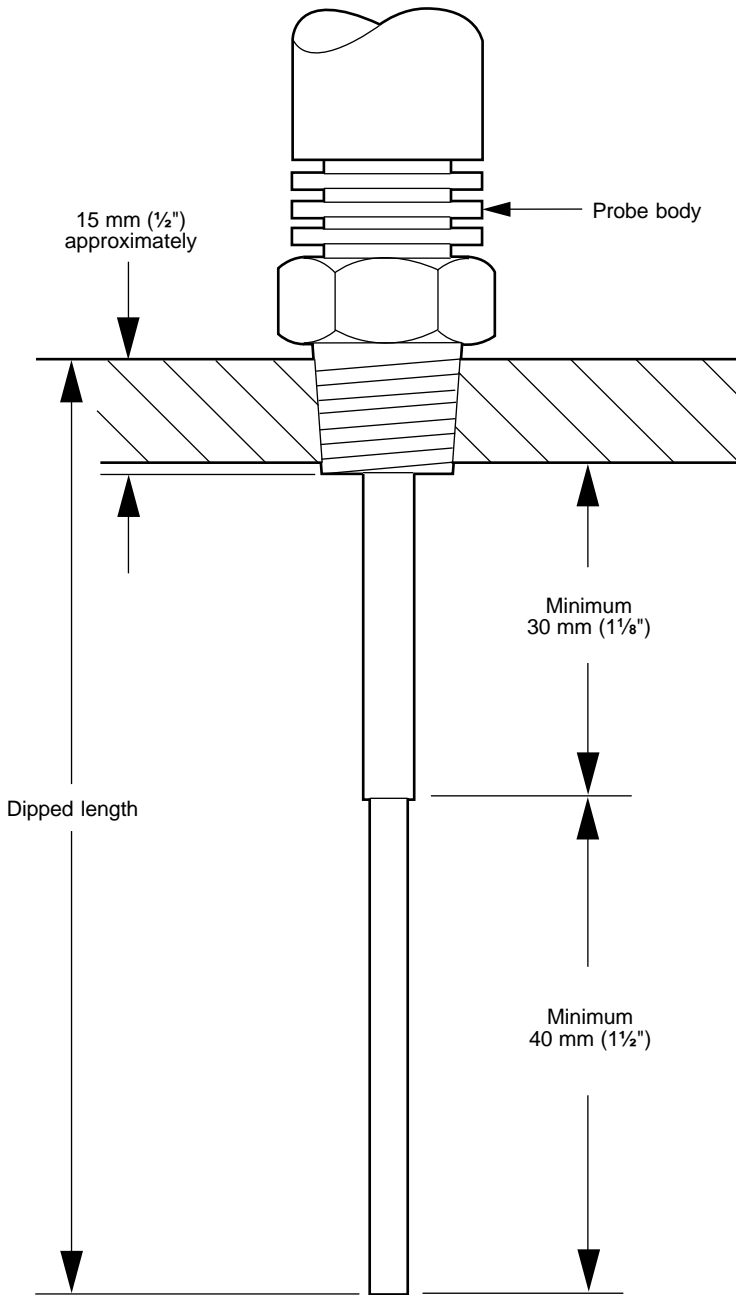

Fig. 3 Installation
- Measuring from the underside of the probe body, cut the probe tip to 15 mm (½") less than the dipped length with a fine hacksaw and de-burr the end. See fig. 3. This takes the thread engagement into account.